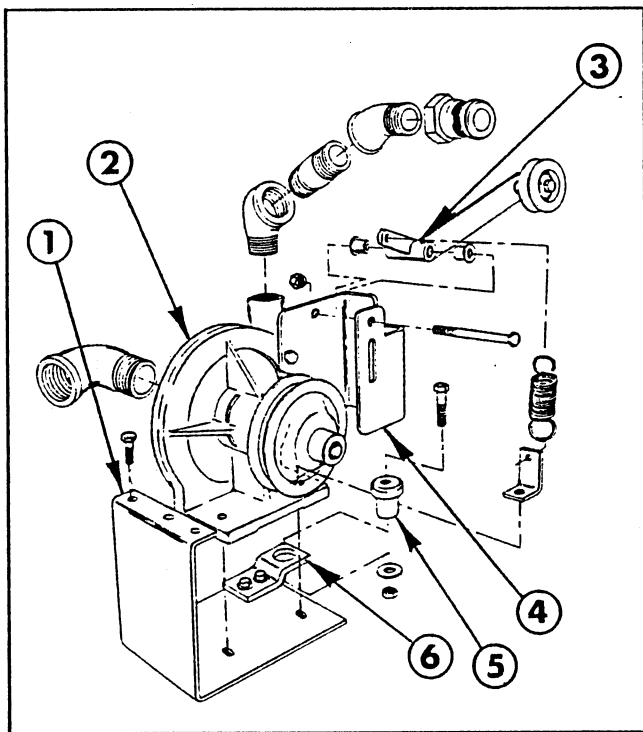
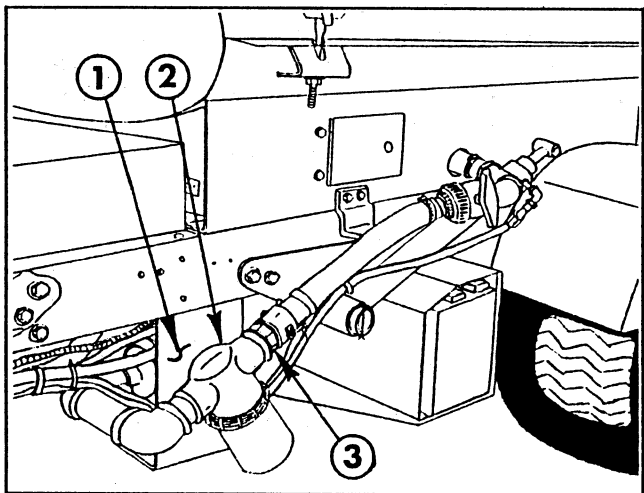

FIG. 1
FIG. 3
2. Install the square key into the centrifugal pump shaft key slot. Place the pump pulley on the pump shaft and secure to the shaft using the 5/16" x 3/4" hex hd. cap screw, 5/16 I.D. 10 GA. flat washer, and lockwasher (FIG. 1).
3. Attach the idler pivot bracket to the pump by removing the two pump housing bolts and replace with (2) 3/8" x 1" hex hd cap screws. See FIG. 1.
4. Install one flange bushing into each end of the idler pivot assembly mounting hole and attach to the idler bracket using the 3/8" x 3" hex hd cap screw and locknut (FIG. 1).
the tension spring to the short arm of the idler pivot assembly (FIG. 1).
6. Apply sealer and install the 90 degree x 1-1/4" street elbow into the suction port of the pump. Apply sealer and install the 1" x 3" nipple, (2) 45 degree x 1" elbows, and quick adapter into the discharge port of the pump (FIG. 1).
7. Install the rubber mount into the tab mount and loose fit the tab mount to the pump mounting bracket using the (2) 3/8" x 1" hex hd cap screws, flat washers, and locknuts (FIG. 1).
8. Attach the pump mount bracket assembly to the left side of the vehicle frame using the (3) 5/16" x 1" hex hd cap screws, lockwashers, and hex nuts (FIG. 3). Next, attach the tab mount to the crossmember using the 3/8" x 1-1/2" hex hd cap screw, 3/8 I.D. 10 GA. flat washer, and locknut. See FIG. 1. Tighten all fasteners securely.
10. Mount the pump and the spring tab to the pump mount bracket using the (2) 3/8" x 1-1/2" hex hd. cap screws, flat washers, and locknuts. Attach the spring to the spring tab located at the base of the pump (FIG. 1).
11. Apply thread sealer and install the 1-1/4" x 6" nipple, 90 degree x 1-1/4" elbow, 1-1/4" close nipple, suction strainer, reducing nipple, and quick adapter into the suction side of the pump (FIG. 3).